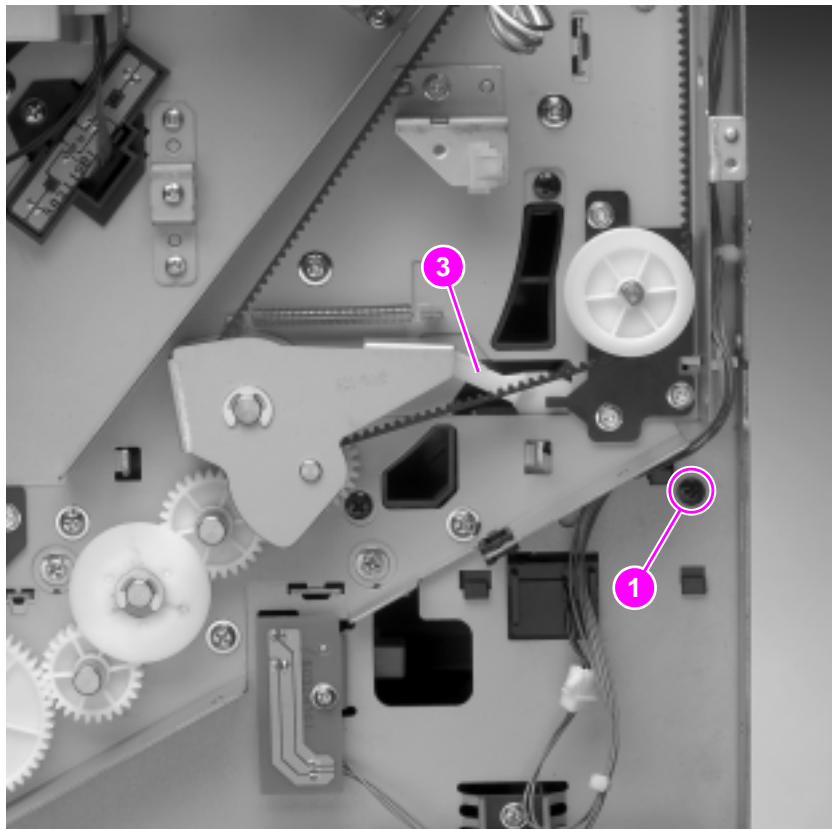

Figure 104. Face-up solenoid
- Ensure that the plastic arm from the solenoid is engaged under the delivery drive swing arm (callout 3, figure 104).